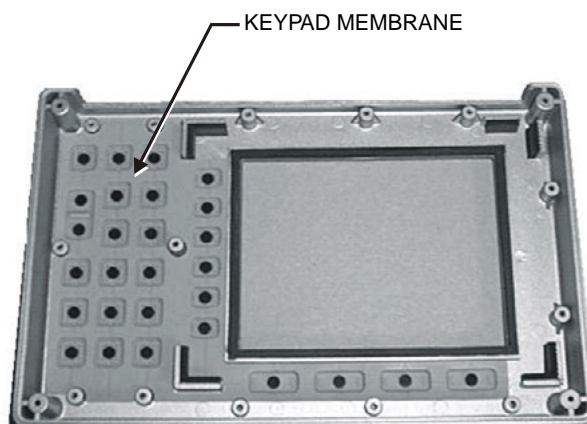

Figure 4-6. Front Panel Keypad Membrane
3. Remove the keypad membrane by gently pulling the membrane up and out of the holes in the front panel (Figure 4-6).